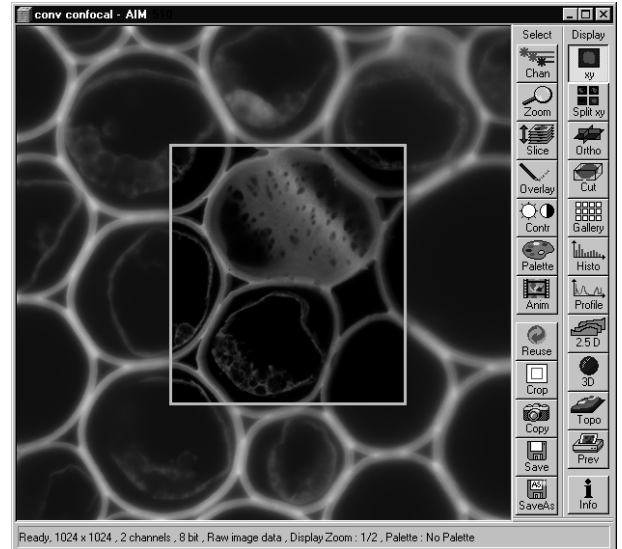

Fig. 4-320 Image Display window with confocal ROI
- The influence of the aperture size on image creation is shown by the example in Fig. 4-320. The entire image was first scanned with too large a aperture size. The aperture size was then optimized for a defined ROI. This considerably improved the display of the specimen structures.